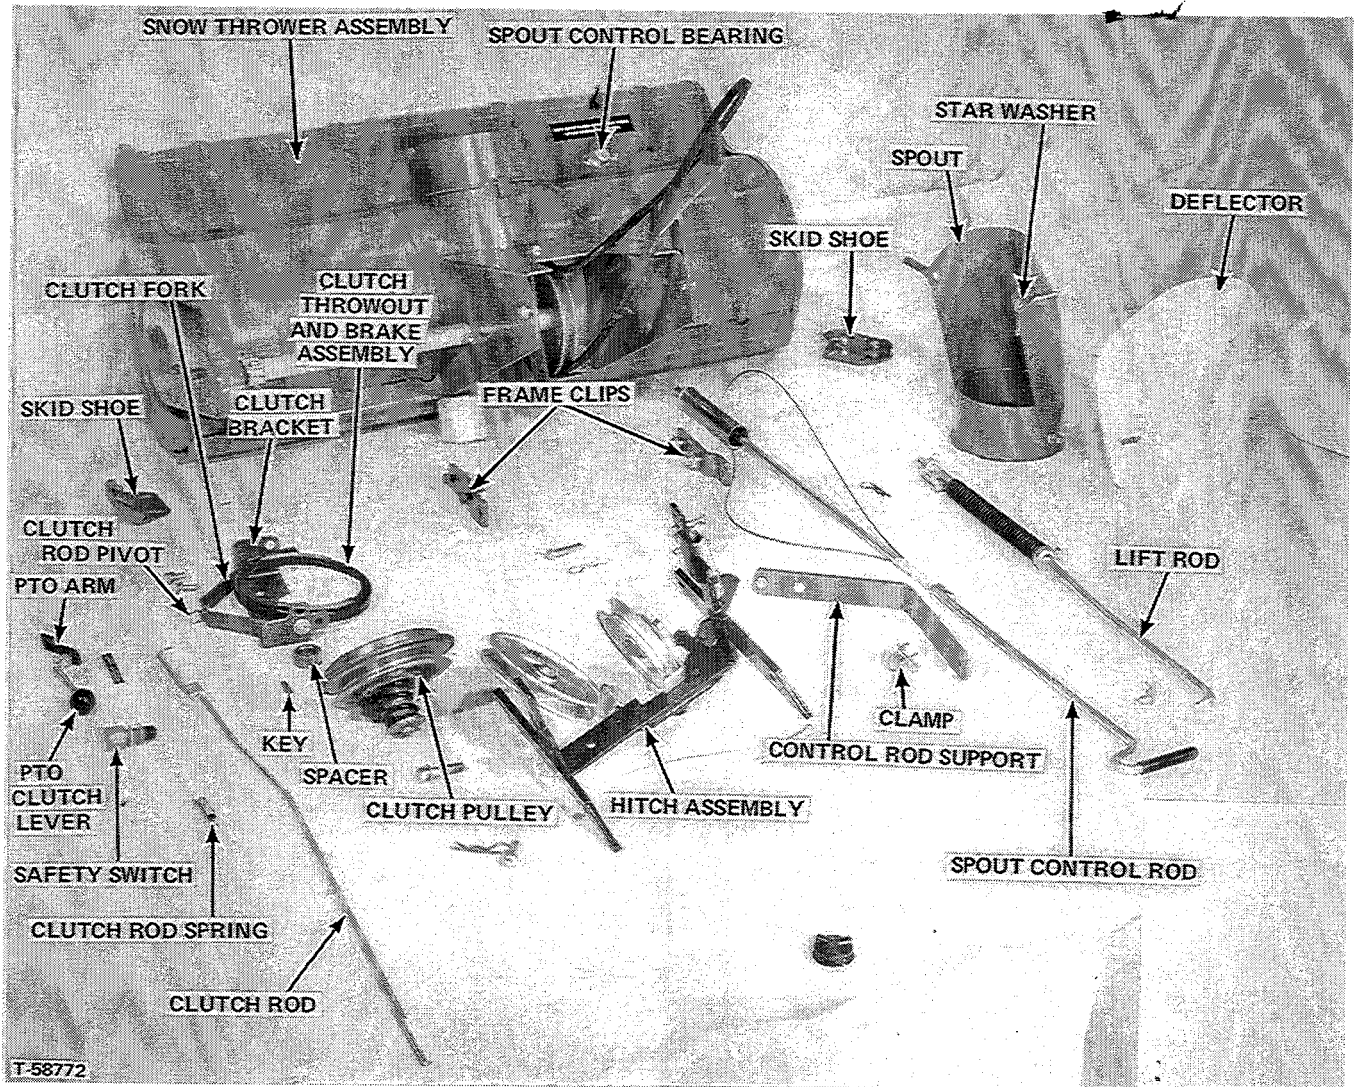
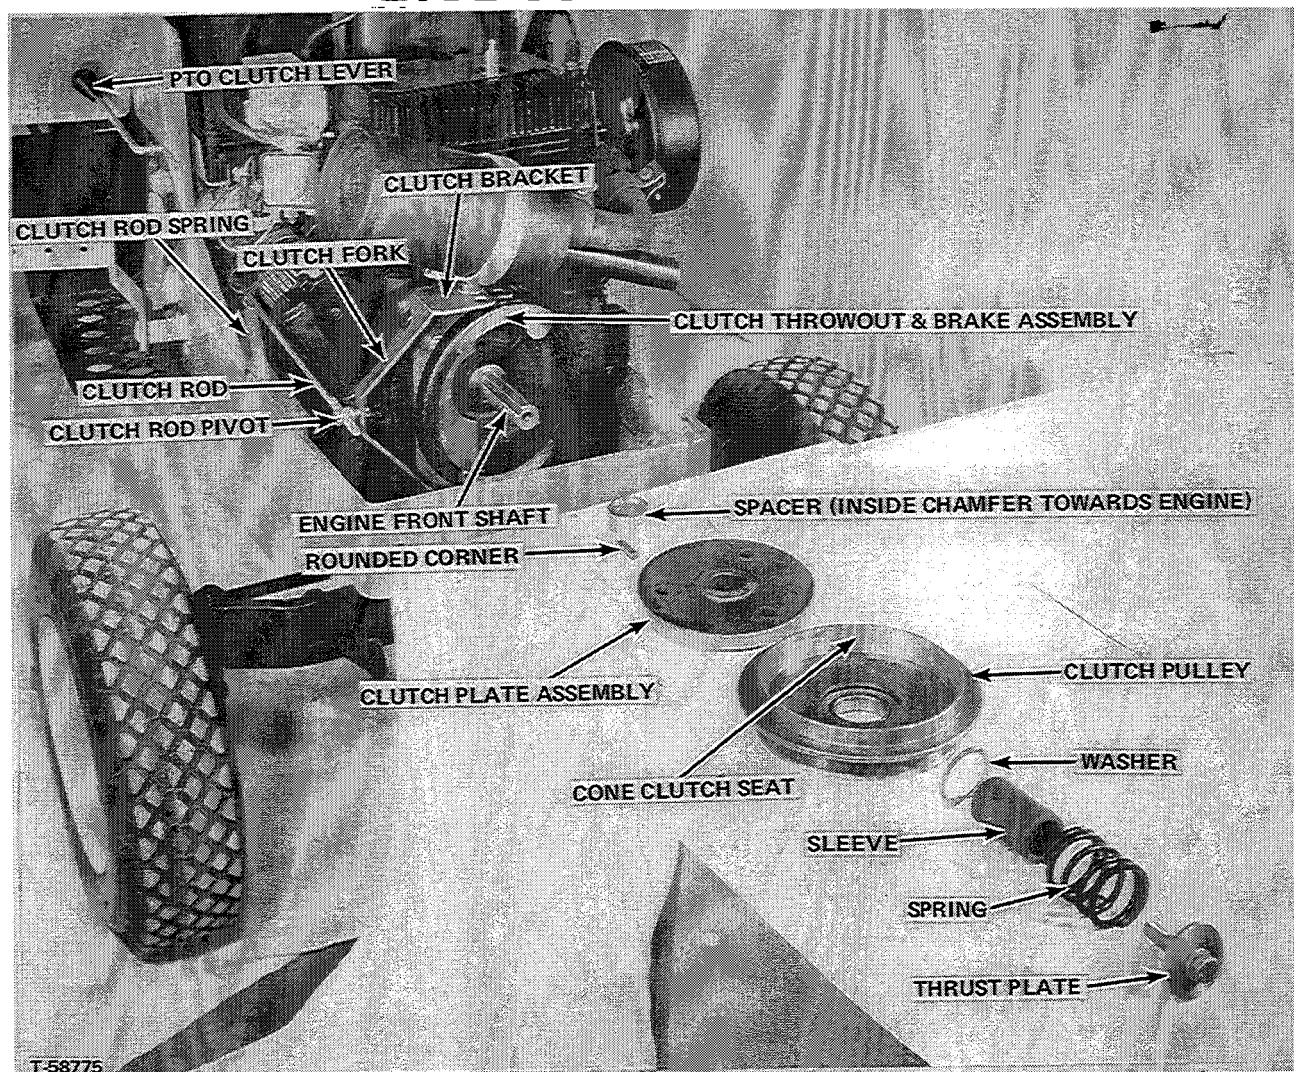
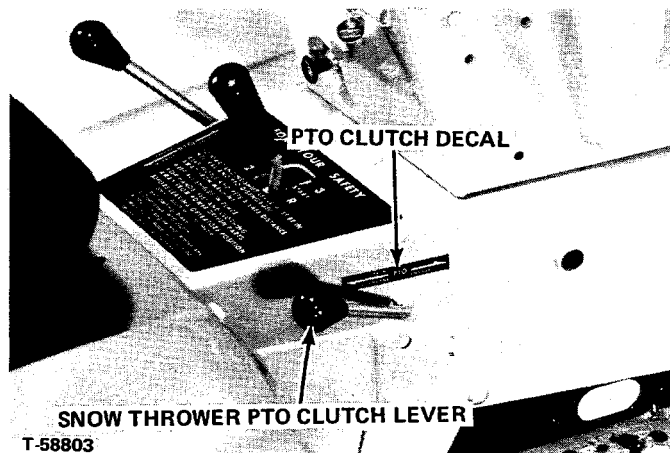

FIGURE 13
FIGURE 14
**FIGURE 15 - View Under Tractor
Figure 13 shows parts and subassemblies approximately as shipped and laid out for assembly.
1. The clutch bracket, clutch fork, and clutch throwout and brake assembly may not be assembled or may be assembled differently than shown in Figure 13. In any event proceed as follows:
- B. Place the clutch fork inside the ends of the clutch bracket and bolt the inner holes of the fork to the inner holes of the bracket with a hex head-bolt installed from the inside, a spacer in the holes in fork and bracket and a flat washer and locknut on the outside at each leg of the bracket as shown in Figure 13.
2. Remove the hood from the tractor on which the snow thrower is to be mounted. Bolt the clutch bracket and the parts assembled to it in 1, above to the front housing of the engine as shown in Figure 14. The brake lining pads must be facing forward.
3. Place parts displayed in Figure 14 on the engine front shaft in following order:
4. Remove PTO arm from the PTO clutch lever and install lever through hole in tractor frame (Figures 13, 14 and 15). Place PTO arm on squared shoulder shank of PTO clutch lever on the inside of the tractor frame in such position that when lever is held in a straight up vertical position, the arm is also pointing upward but at about a 30° angle toward the rear. Install locknut and tighten securely. (See Figure 15)
5. With the threaded end of clutch rod toward the front, work other end of rod back inside of tractor frame as shown in Figure 14 and hook rod end into PTO arm as shown in Figure 15. Secure with cotter pin in end of rod.
6. Place the clutch rod pivot on the end of the clutch rod, attach the clutch rod spring (Figure 14). Adjust the snow thrower PTO clutch as outlined immediately before this setting up instruction section.
7. With PTO clutch properly adjusted and placed in the forward, engaged position install the safety switch loosely in the safety switch bracket with one thin hex nut above the bracket and the switch and other hex nut below the bracket as shown in Figure 15.
8. Adjust the safety switch downward with the two thin hex nuts until the actuating pad (Figure 15) will almost fully depress the plunger in upper end of switch without putting any appreciable load on the switch itself when the PTO clutch is placed in the rear fully disengaged position. Lock the hex nuts against the bracket (Figure 16).
block, (Figure 15), that is attached to the wiring harness under the tractor. Slip connector block firmly over the two connector terminals on the switch as shown in Figure 16.
Refer to Figure 13 for parts approximately as shipped.